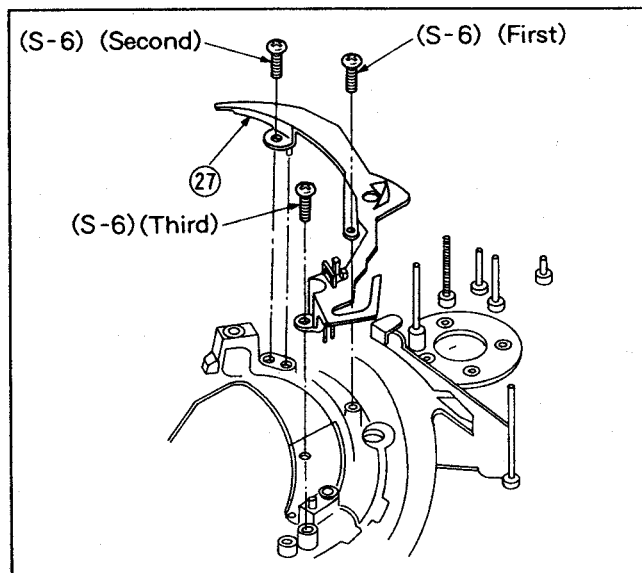

Fig. M12
- 30) Remove T-rail. See fig. M12.
- 15) Reinstall the T rail unit. Tighten the screws in the order shown in Fig. M12.